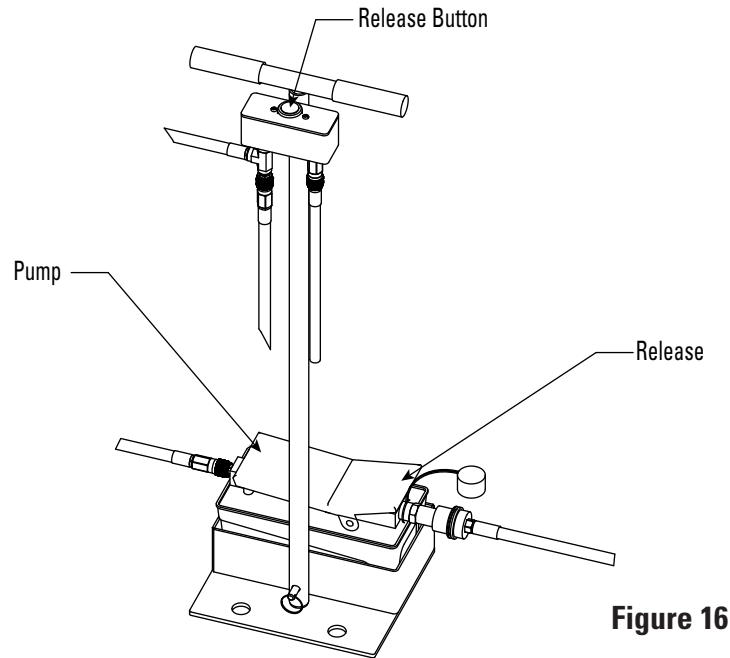

Figure 16
- Disengage the Safety Latch by pressing the Release Button on the Air Valve on the Pump Stand. And lower the lift completely by pressing the release portion on the pedal of the Lift Pump (see Figure 16).